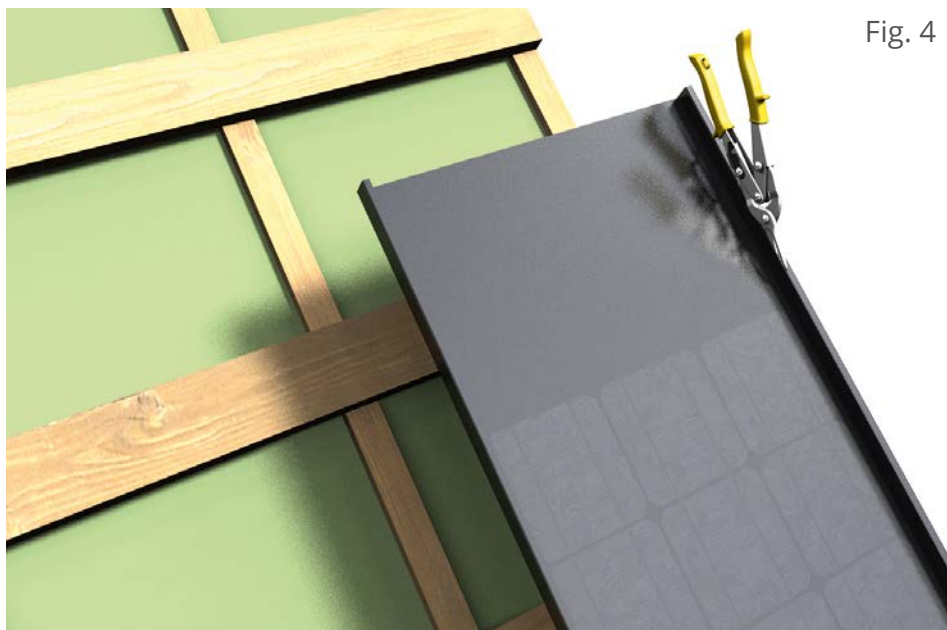

Fig. 4
2.1 Cutting higher lock is shown accordingly in Figure 4, 4 a and 4b. Starting from line where the Roofit.solar module overlaps with the next one, the cut should start from outside of the lock with the angle of approximately 30 degrees as it is shown in Figure 4 a, till it reaches the edge. Then, the cut continues perpendicular to module alignment until it reaches the end of upper part of the lock. After that, the cut continues till the upper part of the lock is completely cut out as it is shown in Figure 4 b.
Fig. 4 a
Fig. 4 b